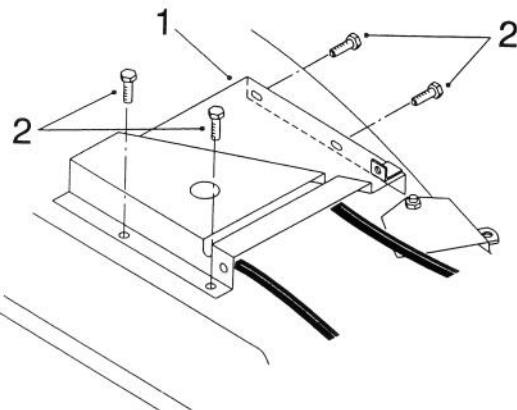

Figure 16
2. Mount the mower belt cover (Fig. 16) loosely on the outside of the mower belt-cover bracket using four  $\frac{1}{4}$ " x  $\frac{1}{2}$ " thread-forming hex-head flange screws. Do not tighten the screws because an adjustment is made in the next step.